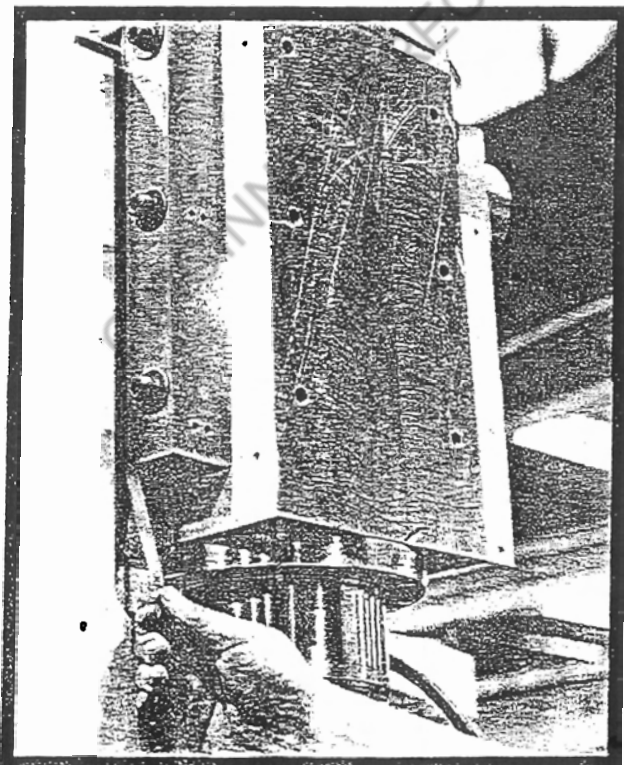

FIGURE 7
2. Tighten the three lower square head screws on the ram bracket to zero clearance (See Figure 7). Repeat procedure on opposite ram bracket.